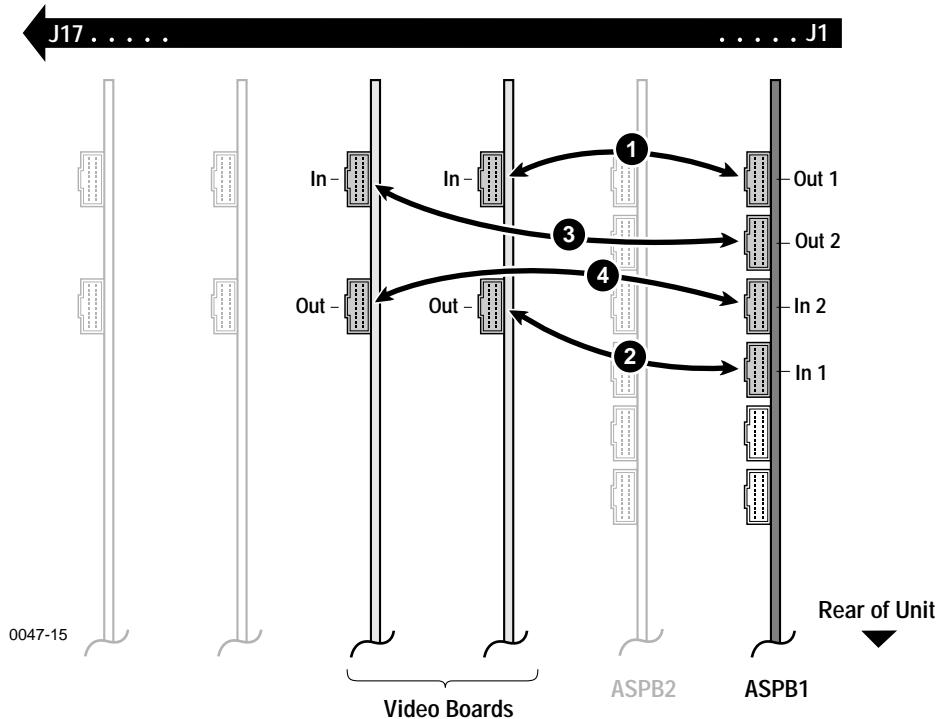

Figure 16. Sharcnet cabling example for ASPB1 or ASPB2
- b. Connect a Sharcnet ribbon cable between the ASPB1 Sharcnet Out1 connector and the Sharcnet In connector of the Serial Digital I/O board in the lowest numbered board slot (❶ in example Figure 16).
- c. Connect a Sharcnet ribbon cable between the ASPB1 Sharcnet In1 connector and the Sharcnet Out connector of the Serial Digital I/O board in the lowest numbered board slot (❷ in example Figure 16).
- a. Connect a Sharcnet ribbon cable between the ASPB1 Sharcnet Out2 connector and the Sharcnet In connector of the Serial Digital I/O board in the next higher numbered board slot (③ in example Figure 16).
- b. Connect a Sharcnet ribbon cable between the ASPB1 Sharcnet In2 connector and the Sharcnet Out connector of the Serial Digital I/O board in the next higher numbered board slot (④ in example Figure 16).